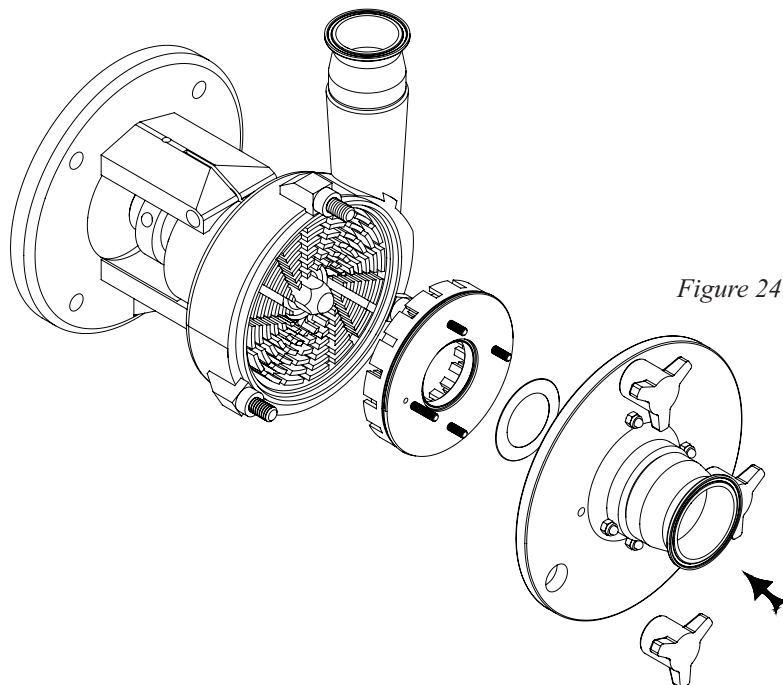

Figure 24
- a) Assemble the housing (17) (without the stationary seal) onto the flange support (2). Make sure that the shoulder of the housing bottoms out against the flange support.
- b) Tighten the clamping bolt (4) in the flange support. Note: make sure the housing is level or in line with the piping.
- c) Place the front seal driver (32) onto the pump shaft (6).
- d) Place the rotor key (8) and rotor (38) onto the shaft (6). Thread the rotor nut (22) onto the shaft and tighten.
- e) Set the gap by placing a 0.5 mm feeler gauge behind the stator (39) (Figure 24). Note: the stator o-rings shouldn't be in place at this time.